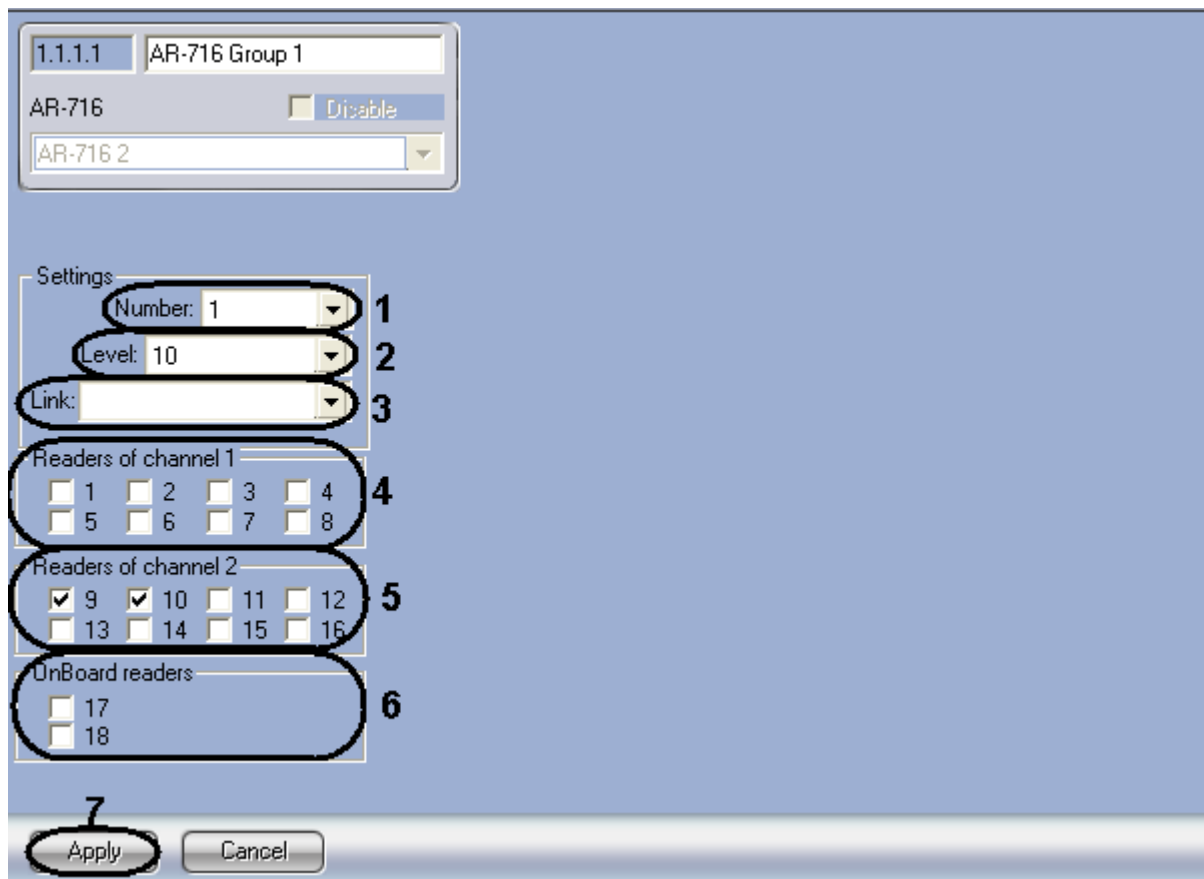

Figure 2.4—8 Settings panel of AR-716 Group object
2. From the **Number** drop-down list select the number of *AR-716 Group* object (Figure 2.4—8, **1**).
3. From the **Level** drop-down list select the level of group priority (Figure 2.4—8, **2**).